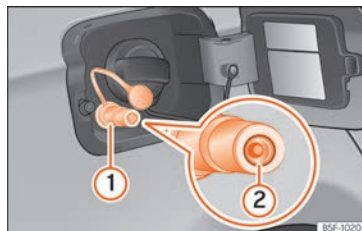

Fig. 265 Open tank lid: gas filler mouth ①, filler mouth retainer ②
- Remove the plug from the gas filler mouth » **Fig. 265 ①**.